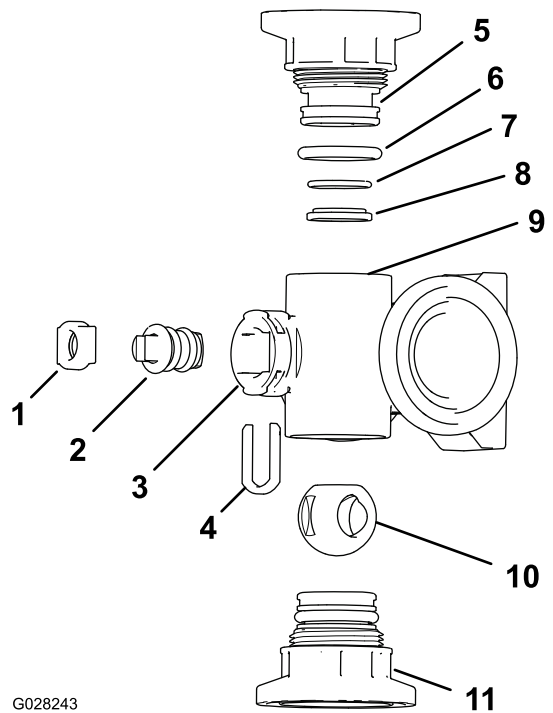

Figure 77
2. Remove the 2 end-cap-fitting assemblies from each end of the manifold body (Figure 77 and Figure 78).
- Remove the stem retainer from the slots in the stem port in the manifold (Figure 77 and Figure 78).
- Remove the stem retainer and valve stem seat from the manifold (Figure 77 and Figure 78).
- Reach into the manifold body and remove the valve-stem assembly (Figure 77 and Figure 78).
- Check the condition of the outlet fitting O-rings (section valve manifold only), end cap O-rings, back seating O-rings, and ball seat for damage or wear (Figure 77 and Figure 78).
- Apply silicone grease to the valve stem and insert it into the valve stem seat (Figure 77 and Figure 78).
- Install the valve stem and seat into the manifold and secure the stem and seat with the stem retainer (Figure 77 and Figure 78).
- Ensure that the back seating O-ring and the ball seat are aligned and seated into the end-cap fitting (Figure 77 and Figure 78)
- Install the end-cap fitting assembly onto the manifold body until the flange of the end-cap fitting touches the manifold body (Figure 77 and Figure 78), then turn the end-cap fitting an additional 1/8 to 1/4 turn.